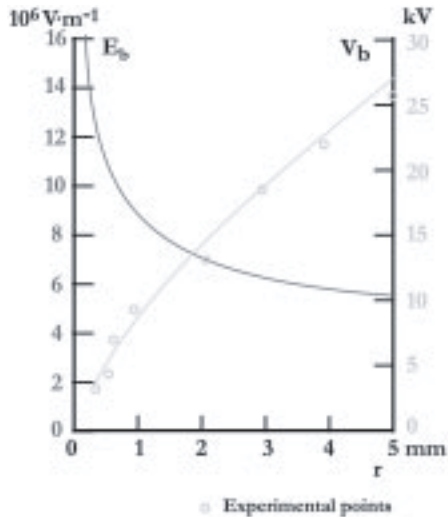

Figure 3
Figure 3 shows the breakdown field strength E_b as calculated from Equation (5), and the corresponding breakdown voltage, V_b , calculated from Equation (3).
voltage of the electrode was raised until a (corona) current to the plane could be measured. The voltage at which this happens is the breakdown voltage for the radius in question. This was done with electrodes from 0.25 mm to 5 mm and the results are shown in Figure 3 as the experimental points.